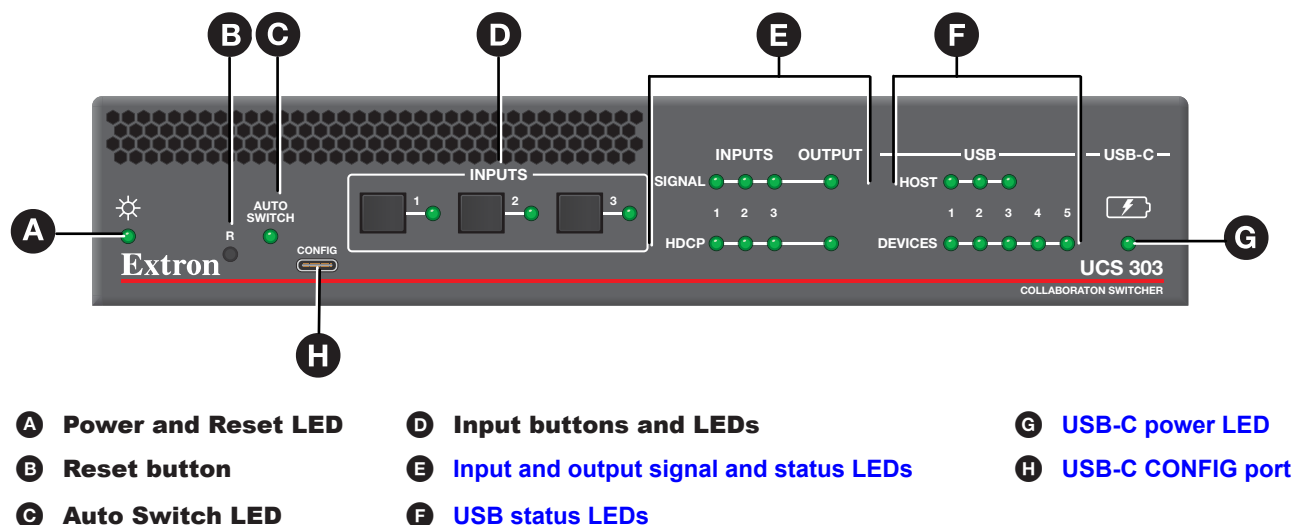

Figure 3. UCS 303 Front Panel
- **Product Configuration Software (PCS)** — Extron PCS is available at www.extron.com. Download and install the latest version to a PC connected to the switcher either via Ethernet or the front panel USB CONFIG port (see figure 3, **A**). For full instructions while PCS is running, press <F1> on the keyboard, click the ? button in PCS, or select the **Help File** option from the PCS Device Tab menu to view the UCS 303 Help File.
- A Power and reset LED** — Lights when the unit has power. While the **R** (reset) button (see figure 3, **B**) is pressed and held, this LED blinks every 3 seconds to indicate the level of reset that is initiated if the button is released and momentarily pressed again at that point.